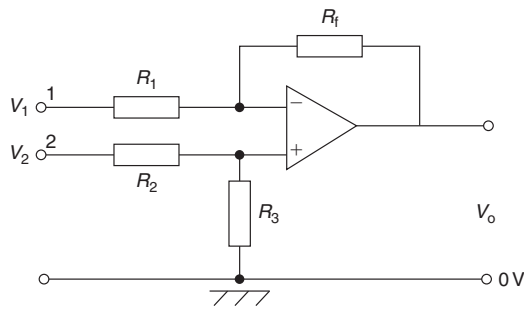

Figure 19.17
The circuit for an op amp differential amplifier is shown in Fig. 19.17 where voltages  $V_1$  and  $V_2$  are applied to its two input terminals and the difference between these voltages is amplified.
**Problem 11.** In the differential amplifier shown in Fig. 19.17,  $R_1 = 10 \text{ k}\Omega$ ,  $R_2 = 10 \text{ k}\Omega$ ,  $R_3 = 100 \text{ k}\Omega$  and  $R_f = 100 \text{ k}\Omega$ . Determine the output voltage  $V_o$  if: